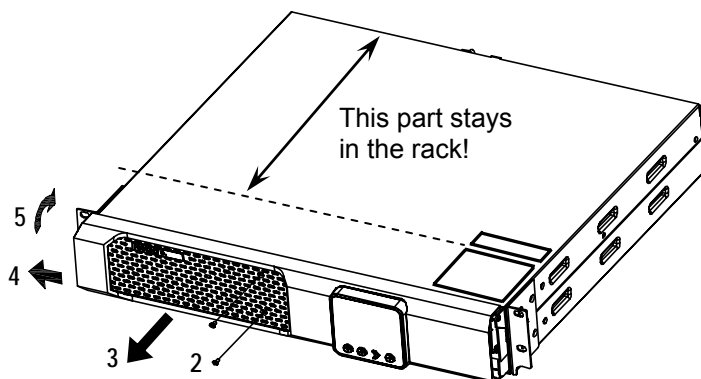

Fig. 22: Removing the UPS front cover
2. Then unscrew the two centered screws in front panel (2) using a suitable cross-slot screwdriver (recommended: Phillips PH1).
3. Now reach behind the front panel on the right and the left and pull the UPS approx. 70 mm forward out of the rack (3) so that the silver sticker on the top of the UPS with the safety precautions becomes visible (refer as well to the following fig. 22)
4. Now slide the front panel a few millimeters sideways to the left (4). The lock will be released ...
5. ... and you can rotate the entire front panel upwards (5). Make sure not to cut the flexible ribbon cable to the LCD display!